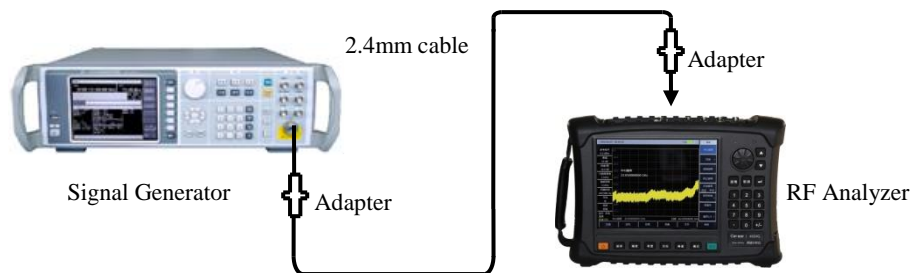

Figure 5-1 Connection Between Signal Generator and Spectrum Analyzer
- b) Generate an FM signal with a signal generator, set the frequency to 1GHz, the power to -10dBm, the FM deviation to 500KHz and the modulation rate to 10kHz. Connect the output of the signal generator to the RF input end of the spectrum analyzer via a cable, as shown in Figure 5-1. Turn on the modulation output switch and the RF switch.
Use the signal generator to generate a frequency modulation signal, and set the frequency to 1GHz, the power to -10dBm, the frequency modulation offset to 500kHz and the modulation rate to 10kHz. Connect the output of the signal generator to the RF input of the spectrum analyzer by cable, as shown in Figure 5-1. Turn on the modulation output switch and the RF switch.